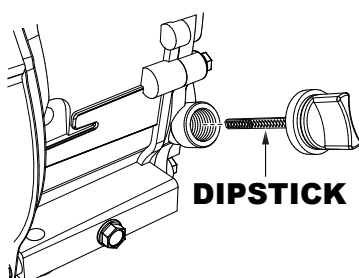

Figure 14. Engine Oil Dipstick Removal
2. Remove the filler dipstick from the engine oil filler hole (Figure 14) and wipe clean.